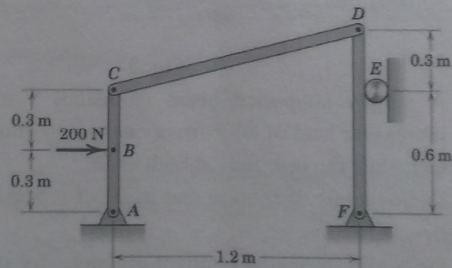

Fig. 1
- For the frame shown in Fig. 1, determine the force supported by the roller at E.